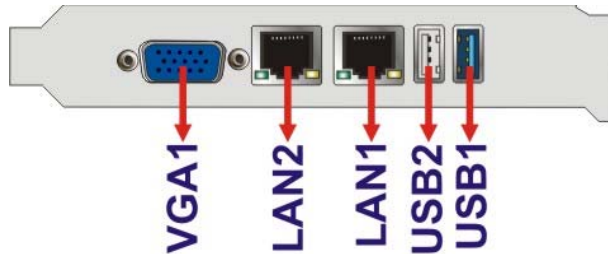

Figure 3-32: External Peripheral Interface Connector
- CN Location:** See Figure 3-32
- CN Location:** See **Figure 3-32**